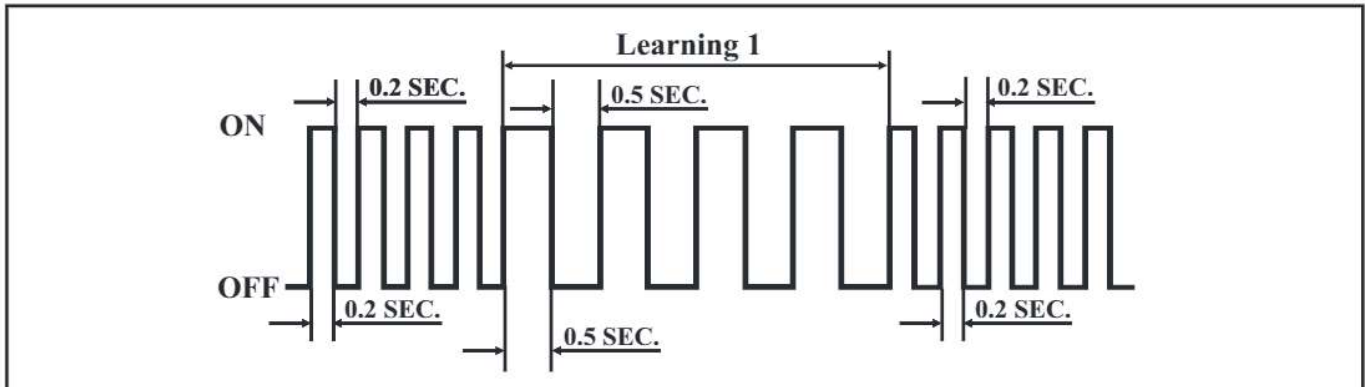

Figure 39
8. Confirm the Overtemperature Lamp is flashing the pattern seen below in Figure 39.